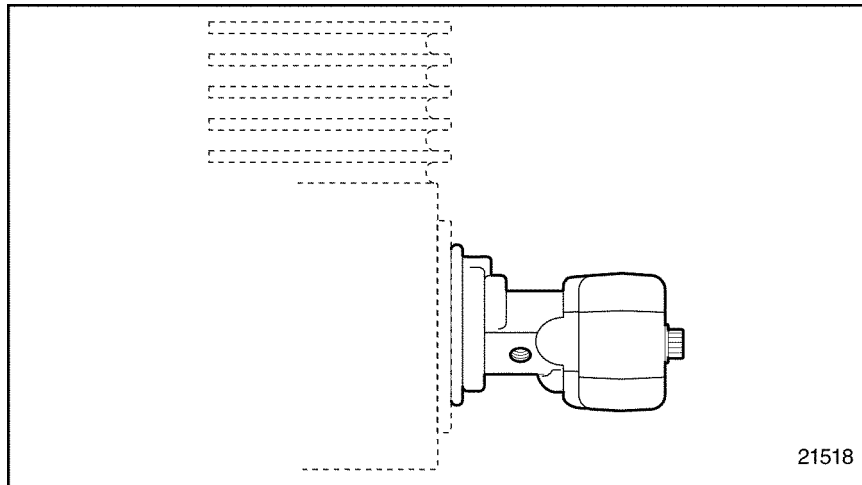

Figure 10-1 Fuel Pump Flange Drain Hole Location
1. Insert a piece of wire through the fuel pump flange drain hole; see Figure 10-1.